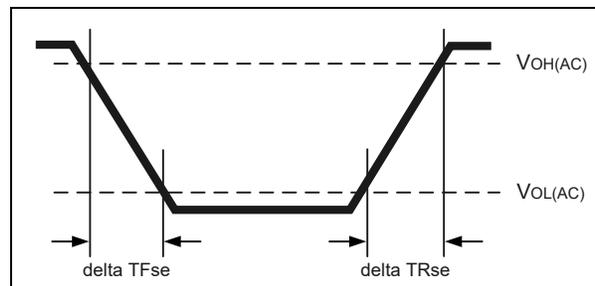

Figure 191 – Single-ended Output Slew Rate Definition
With the reference load for timing measurements, output slew rate for falling and rising edges is defined and measured between VOL(AC) and VOH(AC) for single ended signals as shown in Table 93 and Figure 191